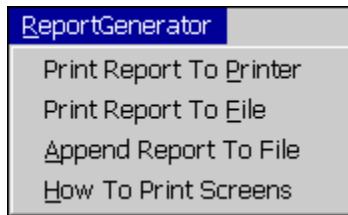

Figure 3-19 Tutorial Report Generator Pulldown Menu
64. Access the hardcopy report generator by clicking on **ReportGenerator** in the menu bar. The pulldown menu shown in Figure 3-19 will appear.